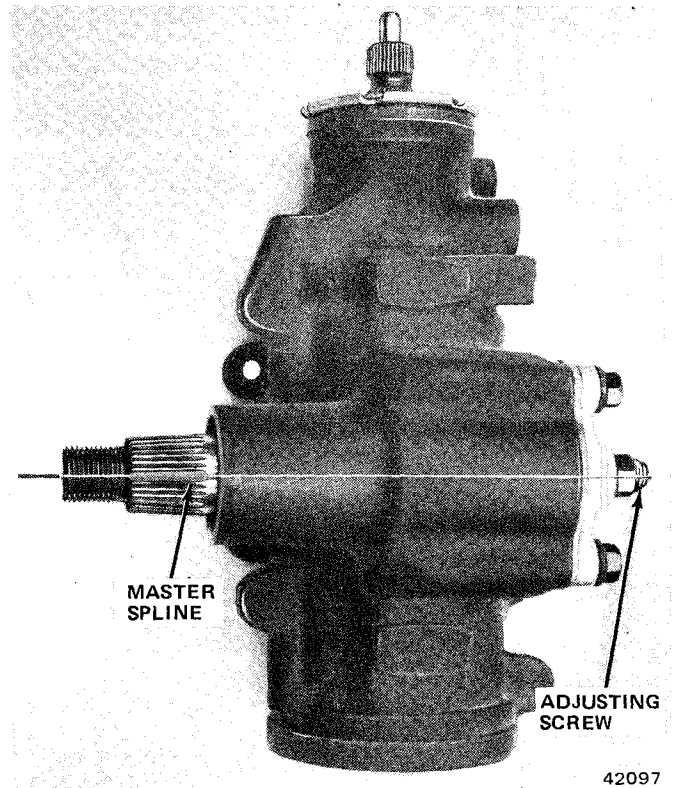

Fig. 2L-45 Pitman Shaft Master Spline Position With Gear Centered
(4) Install 50 inch-pound torque wrench and deep socket on stub shaft and place wrench in vertical position to take reading (fig. 2L-46).